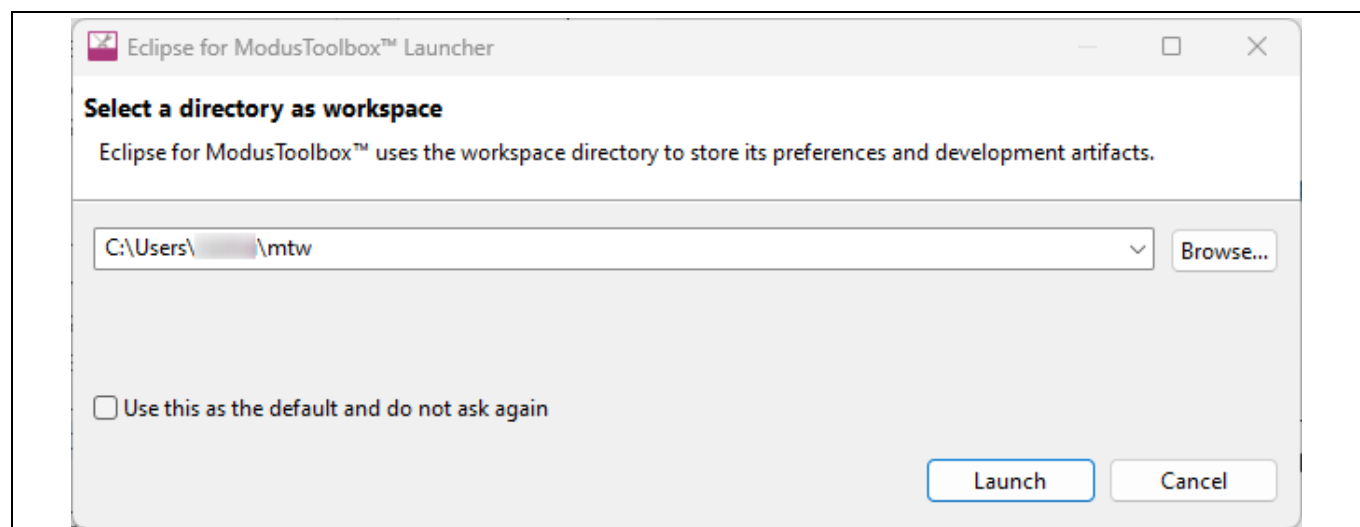

Figure 2 Launching Eclipse IDE for ModusToolbox™ software
1. Launch the Eclipse IDE for ModusToolbox™ software and select the workspace, as shown in Figure 2